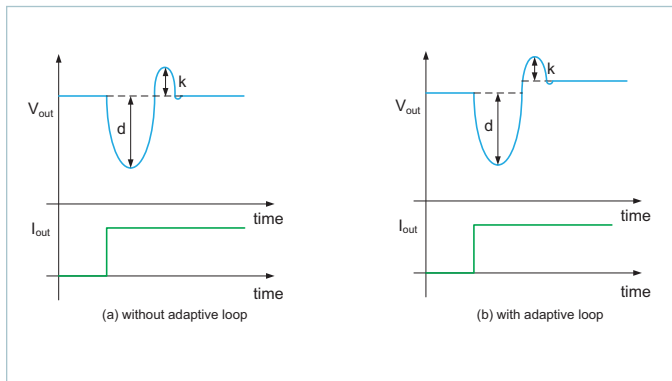

Figure 38 — Load step response example and "droop" vs. "kick" (a) without Adaptive Loop; (b) with Adaptive Loop.
Figure 38 illustrates an example of a load step response. Equation (11) can be used to predict the phase margin based on the ratio of the "kick" to "droop" (as defined in Fig. 38).